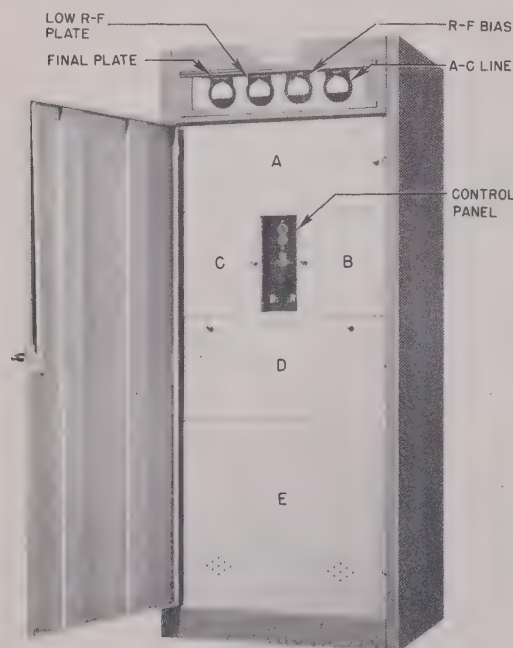
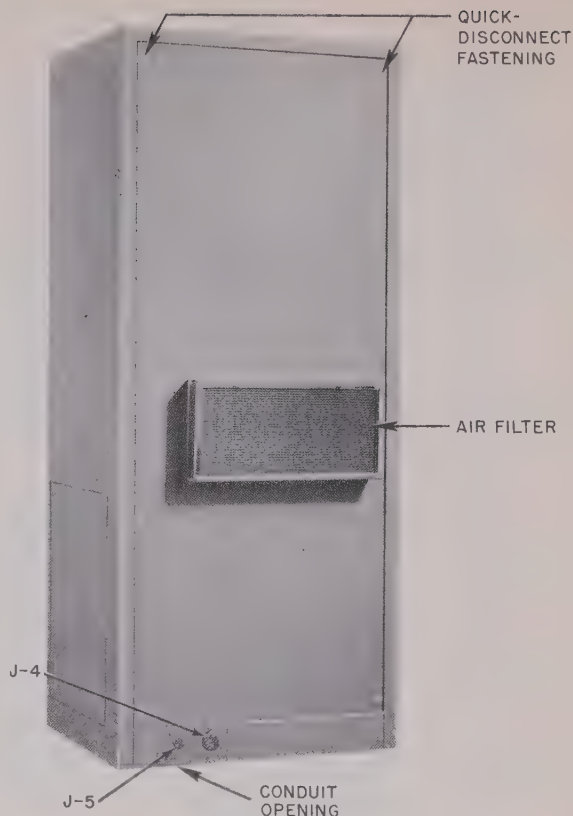
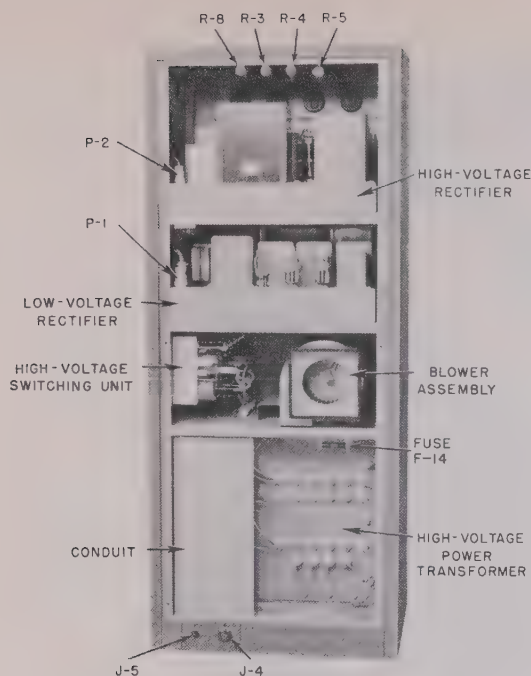
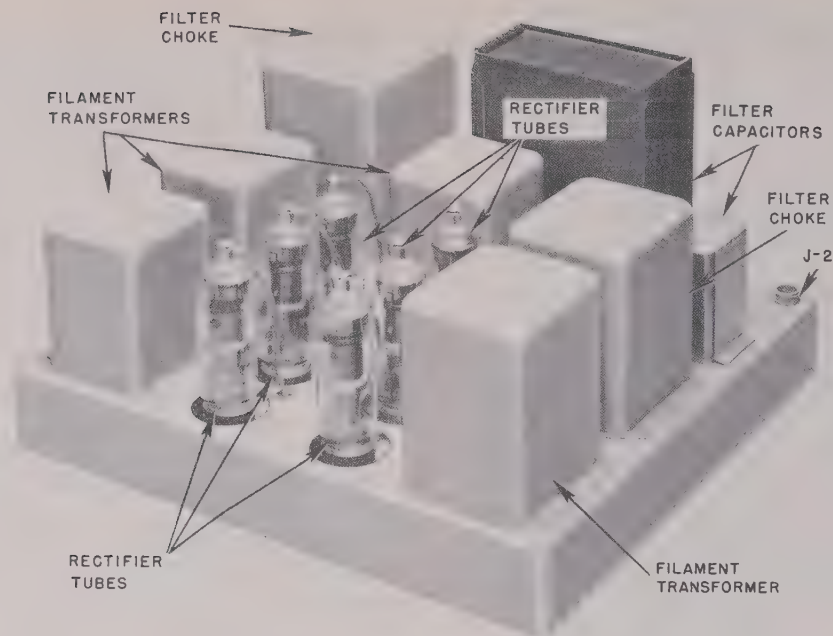

Figure 10. Rectifier Power Unit
Figure 11. Rectifier Power Unit
Figure 12. Rectifier Power Unit Model 36D, rear view with panel removed. Transformer is the type used with Rectifier system, figure 94.
Figure 14. Rectifier Power Unit Model 36D, high-voltage rectifier assembly
a. General. Rectifier Power Unit Model 36D has four full-wave rectifiers with filtered output designed to supply the power requirements of one to three transmitters and associated equipment. The rectifier is housed in a built-up metal cabinet with access doors and panels at the front and back of the unit. Figure 10 is a front view of the unit, and figure 11 is a rear view. Figure 12 is a rear view of the unit with the panel off. The components of the rectifier are mounted on four built-in shelves.
And Panels. Opening the large front door exposes the various safety doors and the control panel (fig. 10). These doors are designated as follows: The top door, A, incloses the high-voltage rectifier assembly; door B, to the right of the control panel, incloses the fuse panel; door C, to the left of the control panel, incloses the relay panel; door D, below the control panel, incloses the mainterminal board and the h-v switching unit; and large panel E, at the bottom of the cabinet, incloses the h-v power transformer. The back of the rectifier is covered by a large metal panel secured to the cabinet by quick-release fasteners. Mounted on the rear panel is the air filter (fig. 11). The rear panel and the doors inclosing the main terminal board and the h-v rectifier are equipped with interlock switches for the protection of personnel.
shelf from the top of the rectifier cabinet behind the control, fuse, and relay panels (fig. 12). The l-v rectifier supplies the 525-volt l-v plate power, the -450-volt r-f bias power, and the 12-volt d-c power. The 525-volt power and -450-volt power are used in the associated transmitters. The 12-volt d-c power is used in the control circuits in the rectifier and in the interlock circuit which is common to the rectifier and all associated transmitters and modulators. Connections to the l-v rectifier assembly are made by means of a plug and jack combinations.
e. High-Voltage Rectifier Assembly (fig. 14). The h-v rectifier assembly is mounted on the top shelf of the rectifier cabinet (fig. 12). The h-v rectifier assembly furnishes the 4,200-volt filtered power, the 4,200-volt unfiltered
f. High-Voltage Switching Unit. The h-v switching unit is mounted to the right side of the rectifier cabinet, between the second and third shelves (fig. 12). The function of the h-v switching unit is to switch each transmitter to the
g. High-Voltage Power Transformer (fig. 12). The h-v power transformer is mounted on the bottom shelf of the rectifier cabinet. The power transformer is an integral part of the h-v rectifying system. The function of the transformer is to step up the 220-volt a-c power to provide power for the 2,100 and 4,200-volt supplies. Connections to the power transformer are made at stand-off insulators at the rear (or front) of the unit.
h. Blower Assembly (fig. 12). The blower assembly is mounted on the third shelf from the top, behind the main terminal board of the rectifier cabinet. When the back panel is mounted in place,